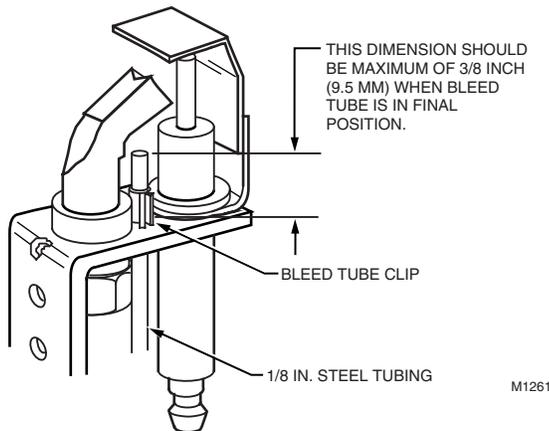

Fig. 16. Install bleed gas tube.
- 2 Push the clip into place. See Fig. 16.